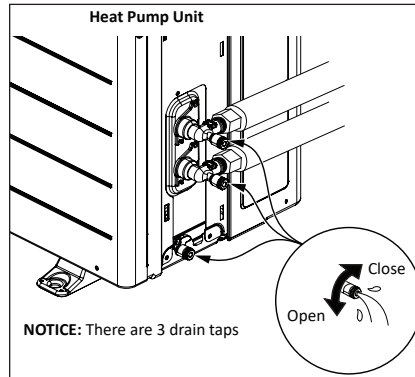

Figure 30 - Purge all air from the unit.
- 5 Once all the water has drained from the tank, open the 3 drain taps on the heat pump unit. See Figure 30.